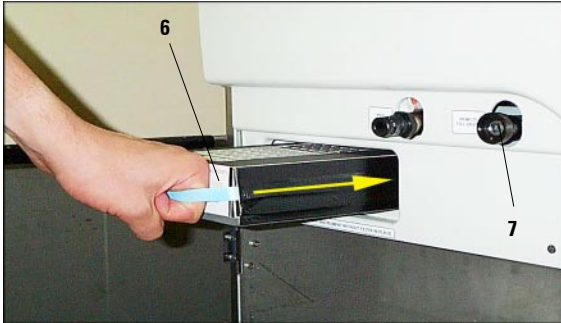

Fig. 4
- Unpack the activated carbon filter and insert it into the instrument (see Fig. 4). Make sure to insert the filter with the correct side facing upwards. See label (6) at the front of the filter - the arrow must point upwards.